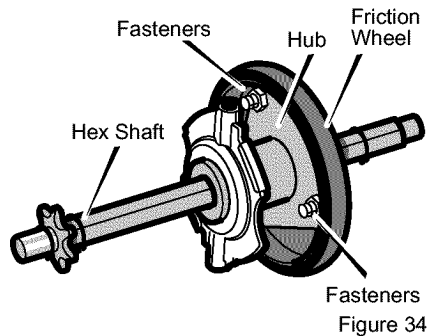

Figure 34
11. Remove the three **fasteners** that hold the **friction wheel** to the **hub** (see Figure 34).